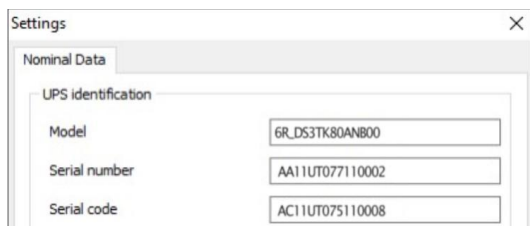
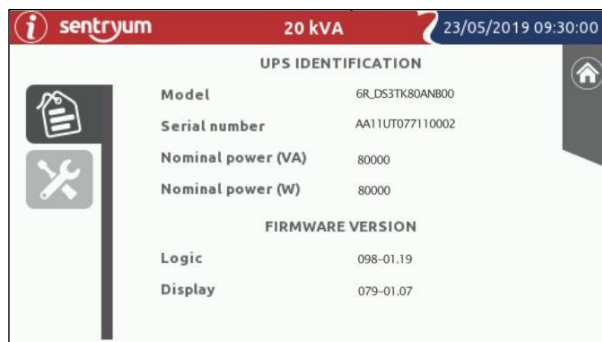

Fig. 91
Fig. 92
The **Model** on the UPS Identification must contain the new part number set previously (see Fig. 92). The nominal power of the UPS must be compatible with the Model.
- Check that the correct **Serial number** is shown on the “Settings” of S3Config (Fig. 91) and on the UPS Info page of the display (Fig. 92):